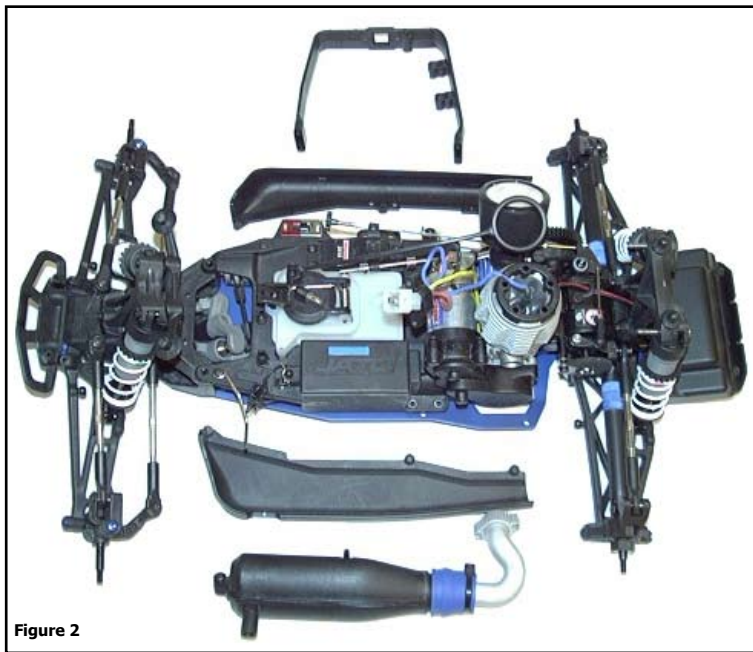

Figure 2
**1.** Remove the body, wheels, exhaust pipe, side guards and roll bar as shown in *Figure 2*.